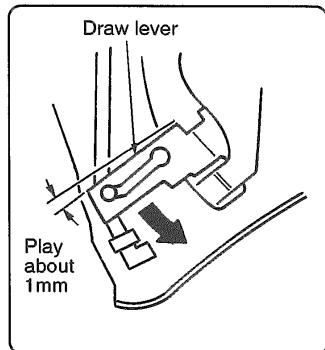

Figure 1
1. Locate the draw lever in the direction of arrow. (Refer to figure 1.)